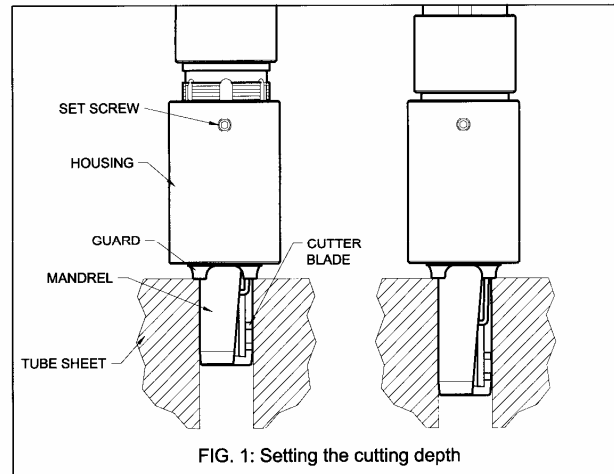

FIG. 1: Setting the cutting depth
**To set the cutting depth (see Fig. 1):** Loosen the set screw (3) in the housing (10) and thread the housing forward or back until the measurement from the face of the guard (13) to the cutter blade is at the desired depth. Before tightening the set screw (3), ensure the set screw is lined up with the flats on the mandrel adapter (7) to prevent any damage to the adapter threads.